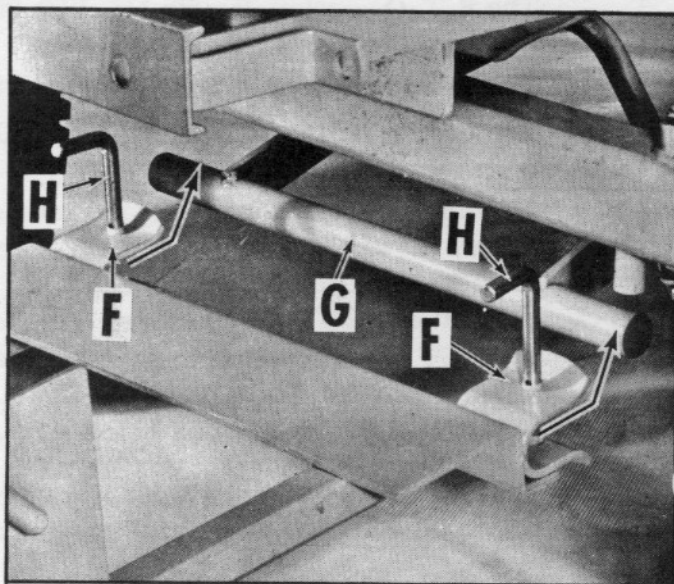

Fig. 4
Move tractor forward until cross shaft (G) of mounting bracket bar has been positioned in front of mounting yokes (F). Slide snow thrower assembly onto cross shaft of mounting bracket and secure yoke assembly to the cross shaft of mounting bracket and secure yoke assembly to the cross shaft with two clevis pins (H) and hair pin cotter pins (J). (See Fig. 4).